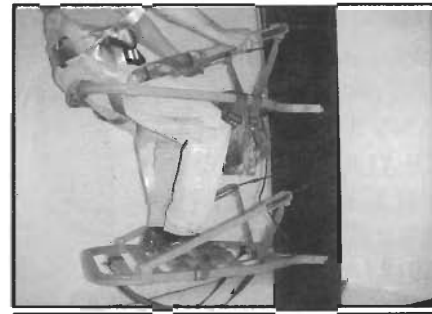

Fig. 22
Step 3. Place the Bullet Backpacker Seat at about knee level, sit on the padded bar, and grasp the upright arms as you did in climbing (see **Figure 22**). For the Broadhead Backpacker, place the seat climber at about waist level, re-engage the climber, and grasp the upright arms very firmly as shown in **Figure 23**.